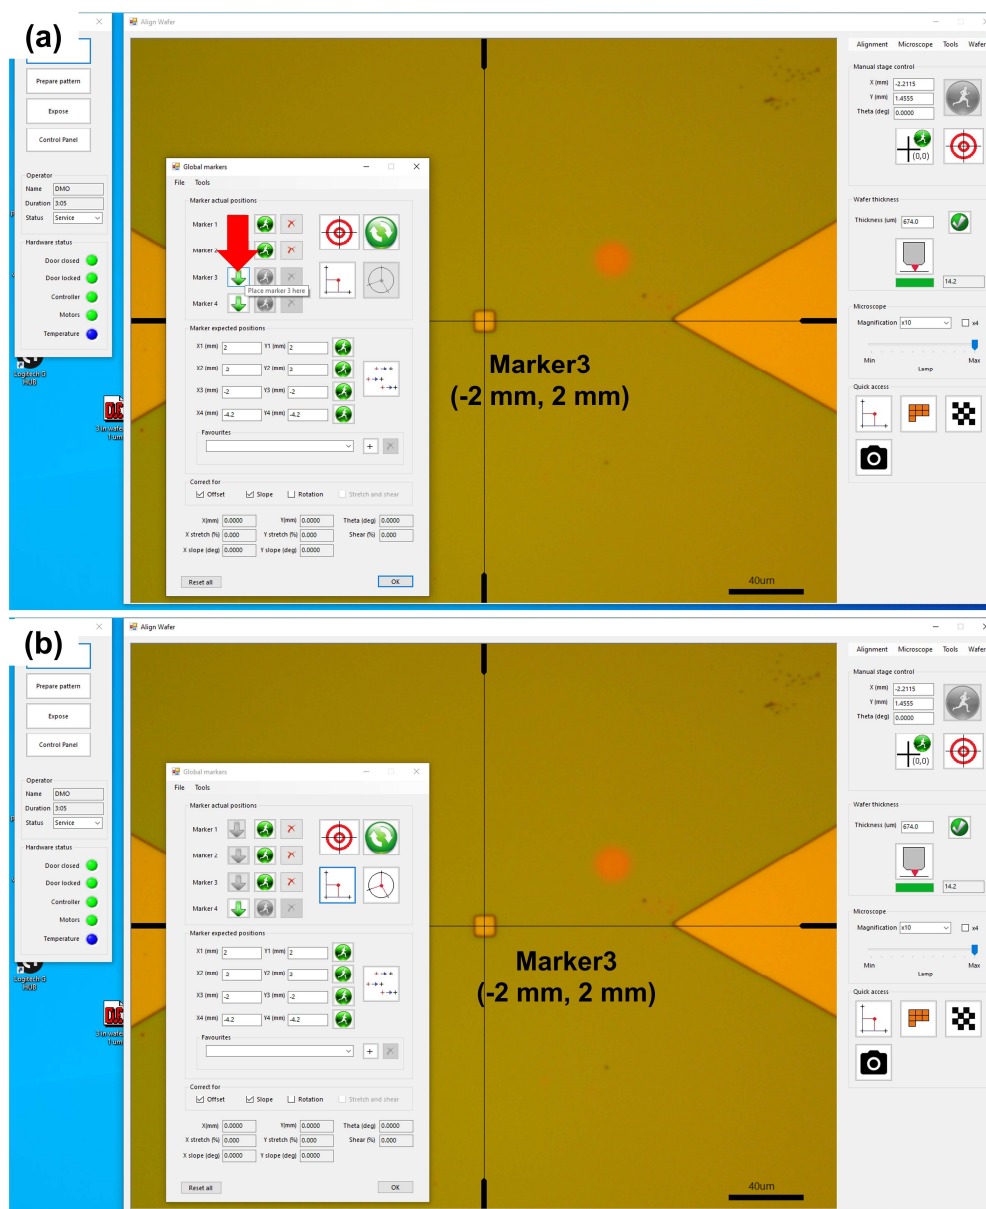

Figure 6 Place the Marker 3 on top of the second alignment marker. (a) Before and (b) after placing the Marker 2 in the “Global markers” window.
- k. Place Marker 3 here: click the Green downward arrow next to Marker 3 (Figure 6(a) before placing and Figure 6(b) after placing the Marker 3).